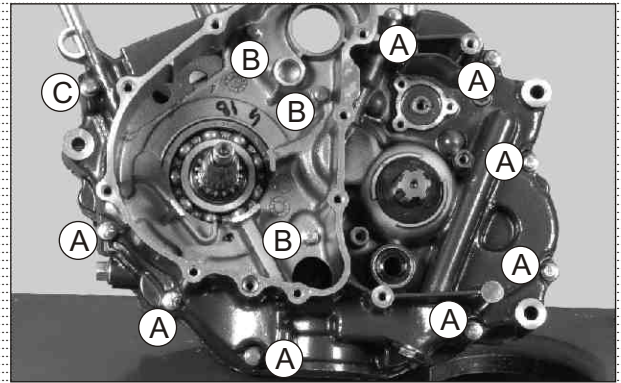

Fig. 3.94
- Remove hexagonal flange bolts (M6x55 - 8 nos (A), M6x75 - 3 nos (B) and M6x95 - 1 no (C)) from the crankcase mounting. (Fig. 3.94)